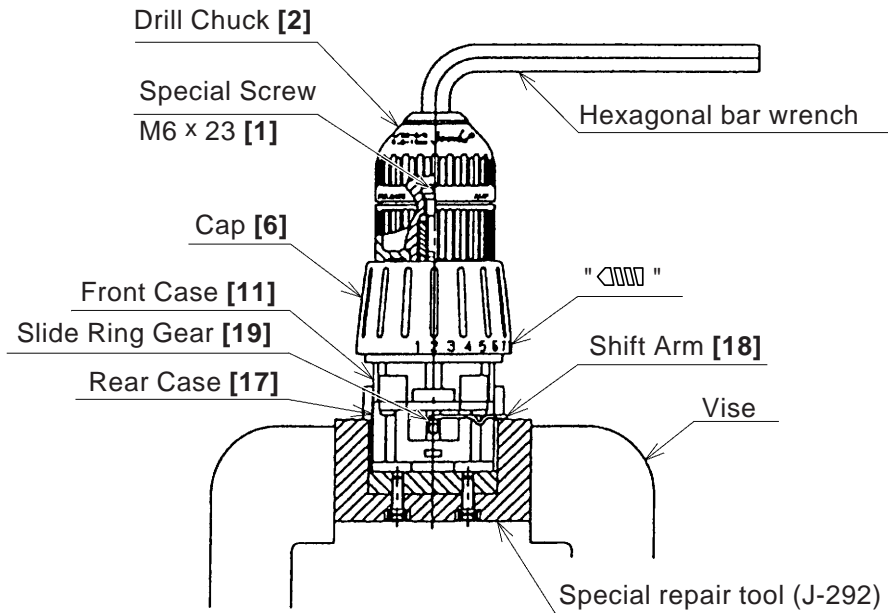

Fig. 1
(3) Removal of the Drill Chuck **[2]**. (See Fig. 1.)
(b) Mount the motor spacer (an accessory of the special repair tool J-292, Code No. 316379 is recommended) to the assembly of the Drill Chuck **[2]**, Cap **[6]**, Front Case **[11]** and Rear Case **[17]** and then mount it to the special repair tool J-292 clamped in the vise as illustrated in Fig. 1. In this operation, check that the pinion press-fitted in the special repair tool J-292 and Planet Gear (A) **[23]** are engaged properly.
(e) Fit the hexagonal bar wrench for M10 into the Drill Chuck **[2]** as illustrated in Fig. 1 and remove the Drill Chuck by turning the hexagonal bar wrench counterclockwise.